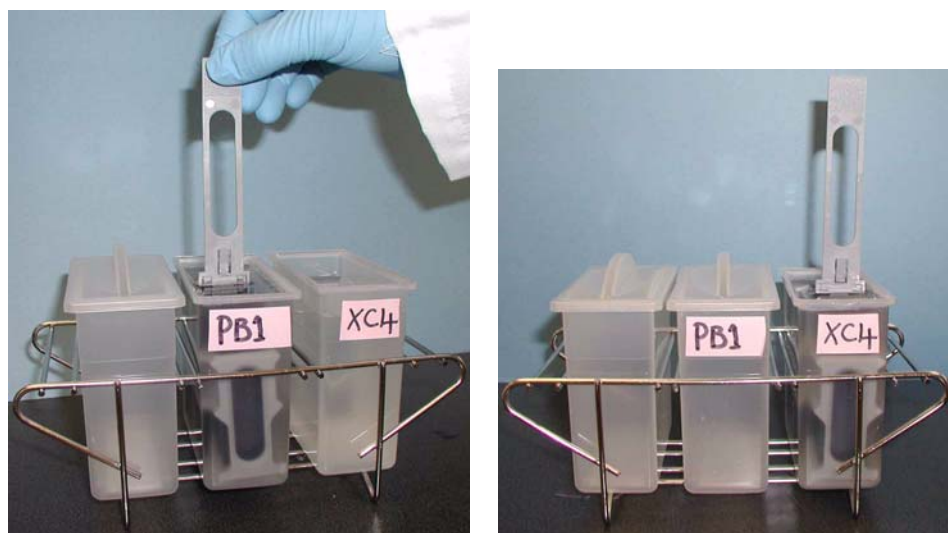

Figure 148 Moving BeadChips from PB1 to XC4
11. Remove the staining rack from the dish containing PB1 and place it directly into the wash dish containing XC4 (Figure 148). The barcode labels on the BeadChips must **face away** from you, while the locking arms on the handle **face towards** you, for proper handling and coating.